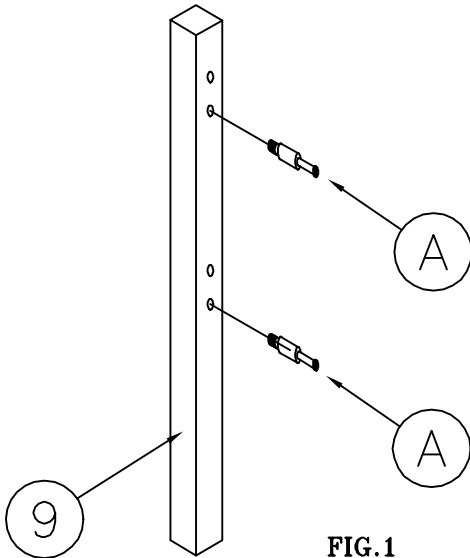

FIG. 1
STEP 1A: Insert Connecting bolts (A) into post (9). Do not over tighten. (See Fig. 1)
STEP 1B: Insert locking housing (E) into bottom of upper and lower panel rails. Ensure the arrow in locking housing its direction goes towards connecting bolt (A) in post (9).